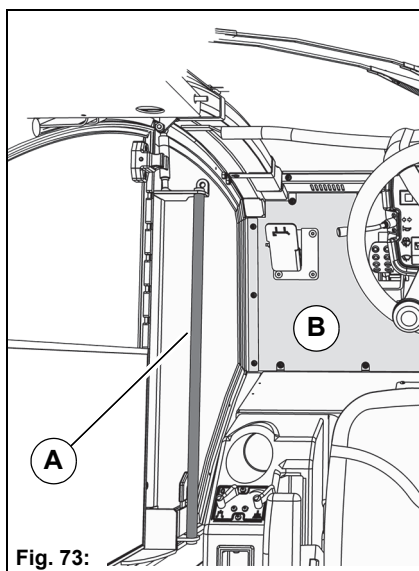

Fig. 73:
1. Open left-hand door and grip and hold the door handle **Fig. 73-A** with your left hand.
2. Put your left foot in the footwell **Fig. 73-B**.